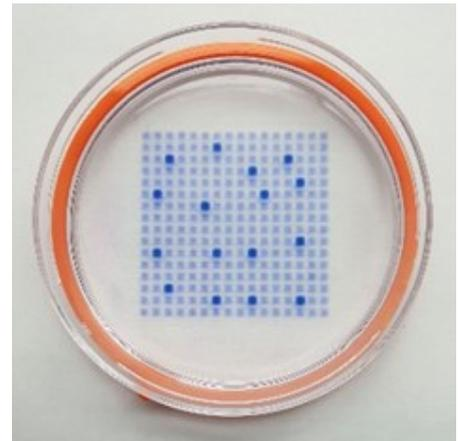

Figure 3
- ▲ *Filled chambers should be apparent as they contain more volume than non-filled chambers (see Figure 3).*